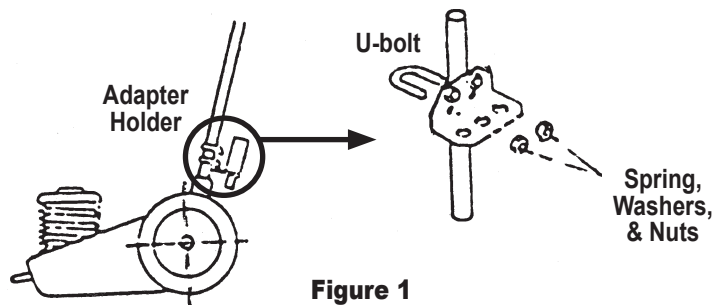

Figure 1
2. Assemble the adapter holder to the handle using the U-bolts, nuts, and spring washers provided. See Figure 1. *Note: When not using the adapters, store them on the holder. Lock each adapter in place with a hitch pin.*